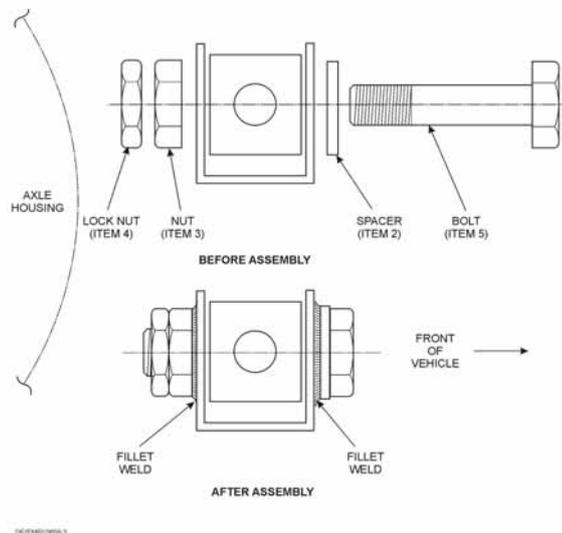

Figure 78 Panhard Rod Mount
- e. Fit Items 2, 3 and 5 from Table 16 into the axle case mounts (Figure 78).
- f. Weld the front spacer and the rear nut to the front axle casing mount (Figure 78) with a 3 mm continuous fillet weld, using either:
- (1) Manual Metal Arc Welding (MMAW) process using electrodes conforming to AS/NZS 1553.1: E4818 that have been reconditioned prior to use in accordance with the manufacturer’s instructions; or
- (2) Gas Metal Arc Welding (GMAW) process using consumables conforming to AS/NZS 2717.1: ES6-GC/M-W503AH and shielding gas conforming to AS 4822:SG-ACO-16/2.75.